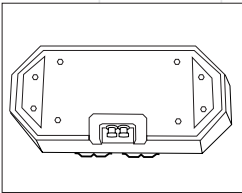

Figure 1
1. Gently place the PT800 tower upside down on a padded surface, and remove the 4 bolts holding the metal plate on the bottom of the tower using the included Allen wrench. (Figure 1)